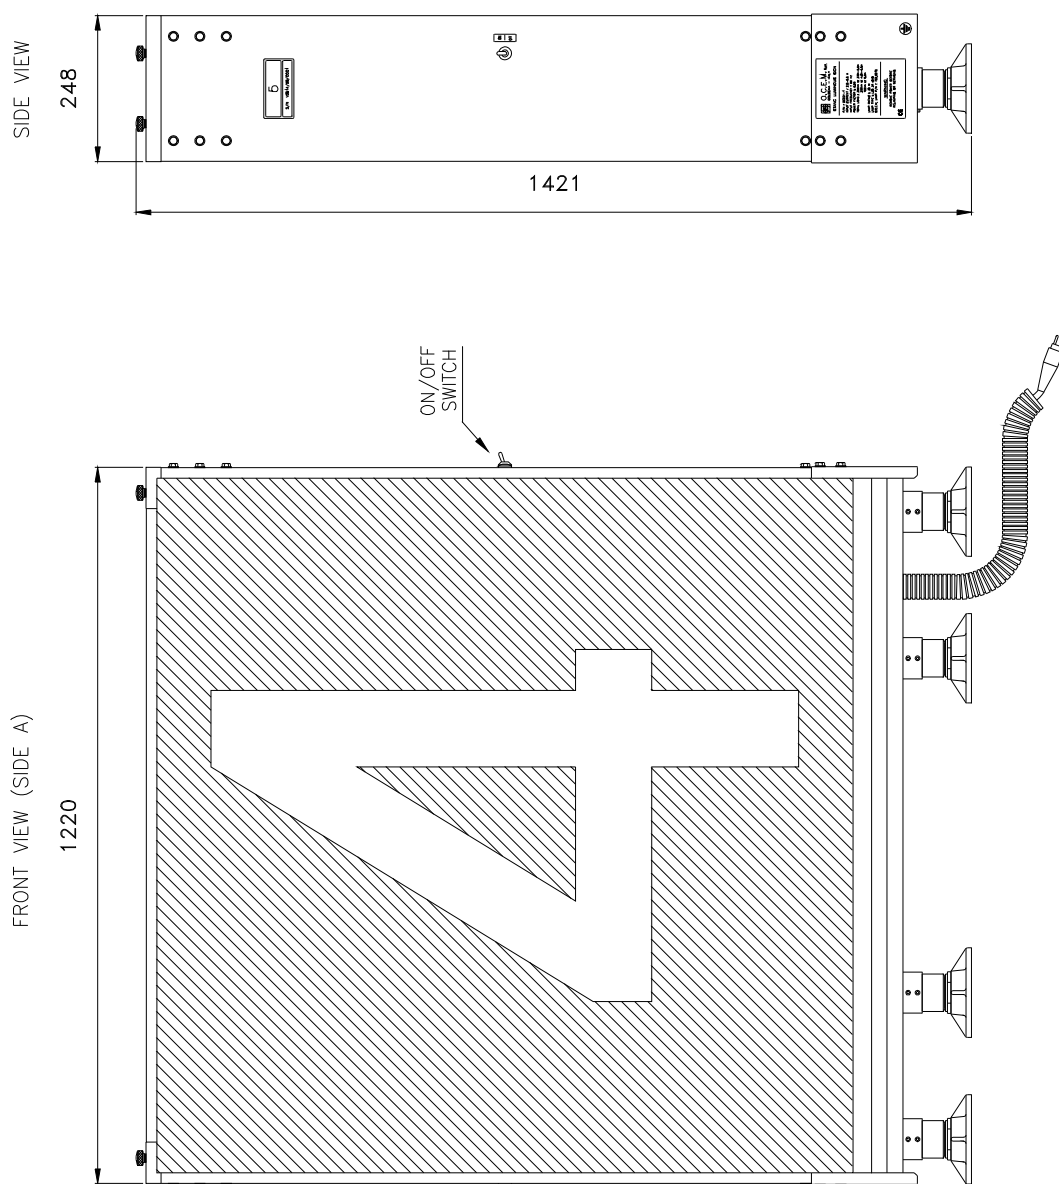

Figure 1 – Overall dimensions
- a) Take as reference Figure 1 for spacing between breakable couplings.